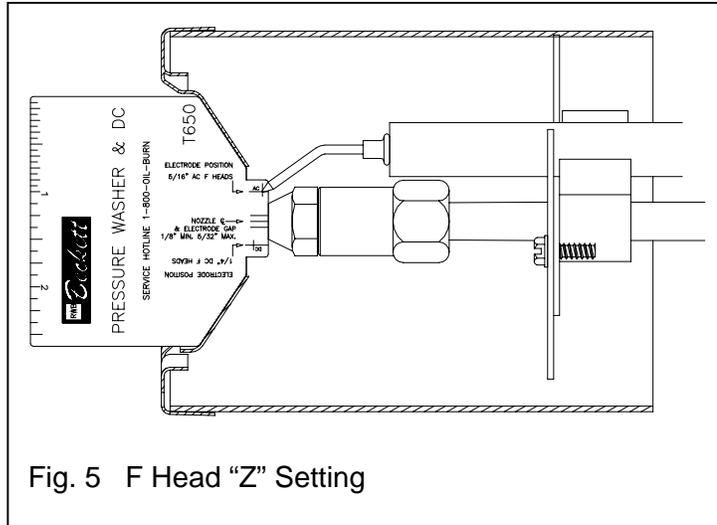

Fig. 5 F Head “Z” Setting
5. The “Z” dimension is important because it locates the nozzle for the precise relationship with the combustion head. To set the “Z” dimension for F heads, position the gauge as shown in **Fig. 5** and loosen the nozzle line electrode assembly so that it can be moved forward or backward in the air tube until the nozzle becomes flush against the gauge. Tighten the nozzle line escutcheon plate screw to lock this “Z” dimension securely.